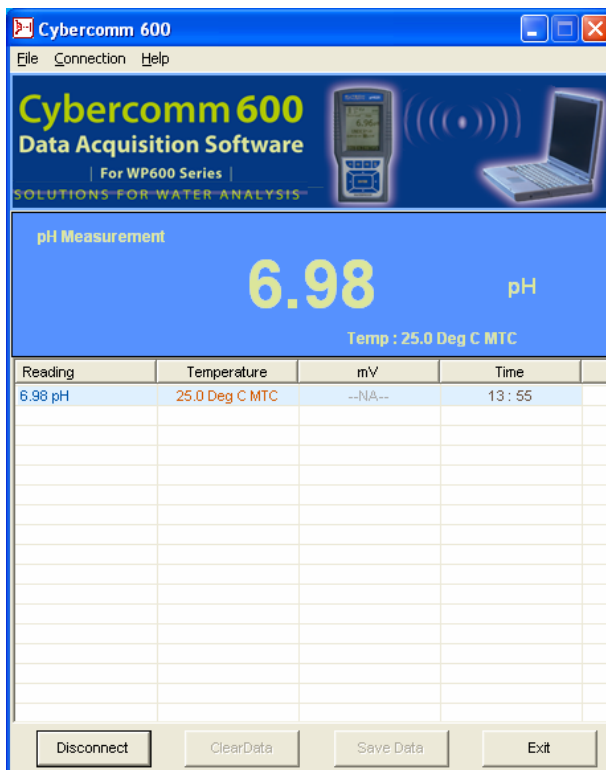

Figure 20 : Transferring a single measurement data
6. When CyberComm finds the meter, press **Connect** button. The IrDA link is established. The currently displayed measurement reading is transferred to CyberComm. (Figure 20)